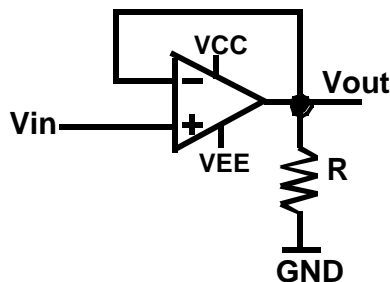
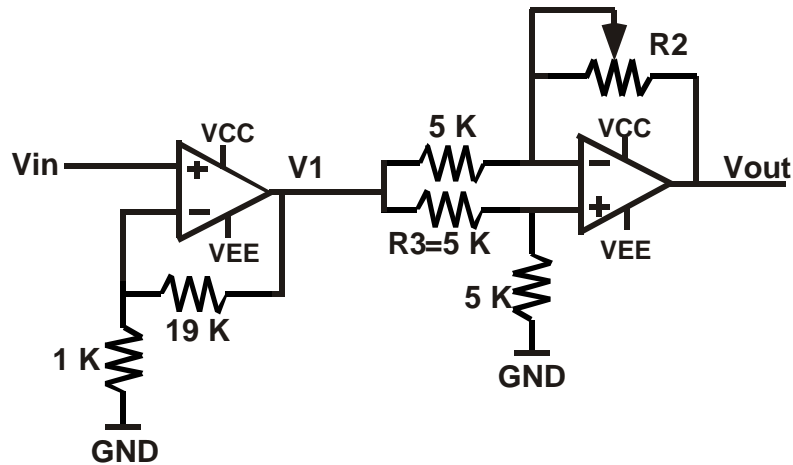

Figure 1. Voltage follower circuit.
Figure 2. Interesting gain circuit (© National Semiconductor).
Figure 1 shows the simple voltage follower circuit whose step response and sine-wave response will be studied in this lab. Figure 2 shows an interesting gain circuit, designed by a technical staff at National Semiconductor to provide variable gain with an interesting twist. You will analyze this circuit to find out what it does, measure its performance in the lab, and then re-design it to meet another specification.
In manufacturing testing of large-scale systems on IC or board or multi-chip modules (MCMs), a broken wire between two nodes in a circuit is a common failure. The wire might break due to improper soldering on a circuit board, bad contact, over-etching of conductor lines on an IC or MCM, etc. This type of fault is called “open” fault since the broken wire is equivalent to an open circuit (no connection). We will study one example of open fault with respect to the circuit in Figure 2 in this experiment.
For the circuit in figure 1 with $R = 5\text{ K}$, power supplies $V_{CC} = 12\text{ V}$, $V_{EE} = -12\text{ V}$, and the parameter values in section 6.1, answer the following questions:
4. Assume small-signal inputs to avoid slew-rate limitations and that the opamp is not ideal (e.g. finite open-loop gain A). You may still assume very large input resistance and very small output resistance for the opamp. Since the opamp gain A is not ideal and varies as a function of frequency (see the opamp specifications), the circuit in Figure 1 might not perform as a voltage follower. Using an equivalent circuit model for the opamp in which the open-loop opamp gain A is finite, analyze the circuit in Figure 1 to derive an equation for the circuit gain V_{out}/V_{in} as a function of A . At what value of A does V_{out}/V_{in} equal 0.5?
5. Using the opamp specifications (plot of opamp gain A as function of frequency) and the result in item 4 above, at what frequency do you expect $V_{out}/V_{in} = 0.5$?
6.3 Analysis of the gain circuit in Figure 2
Use the techniques in the text and what you learned about opamp circuits, analyze the gain circuit in Figure 2 following this procedure:
Re-design the circuit in Figure 2 so that the new overall gain has the opposite sign, i.e. if the circuit in Figure 2 has a gain G , the new circuit has gain $-G$ over the entire range of the resistor R_2 . Use as few components as possible and keep the design simple.
2. Analyze your circuit to prove that it has the gain as specified. If you find out that the magnitude of the gain somehow is not large as the gain magnitude for the circuit in Figure 2, explain why this is so.
6.5 Open fault in circuit in Figure 2
Assume that the circuit in Figure 2 has an open fault at the R_3 (5 K Ω) resistor. The effect of this open fault is to remove R_3 totally from the circuit.
1. Re-draw the circuit diagram in Figure 2, omitting the resistor R_3 to simulate the effect of the open fault.
1. Build the circuit in Figure 1 using $R = 5\text{ K}$, power supplies $\pm 12\text{ V}$. Set the function generator to provide a square wave input as follows (display on channel 1 of the scope):
7.3 Performance of the gain circuit in Figure 2
1. Build the circuit in Figure 2, with the initial setting of the resistor $R_2 = 0$ (record this value) and power supplies ± 12 V. Apply a sine wave input signal with amplitude 100 mV (-100 mV to + 100 mV peak-to-peak), frequency 10 Hz. Display the input signal on channel 1 of the oscilloscope.
1. Build the circuit in Figure 2 but omit the resistor R_3 to simulate the open fault. Set $R_2 = 8$ K Ω . Apply a sine wave input signal with amplitude 100 mV (-100 mV to + 100 mV peak-to-peak), frequency 10 Hz. Display the input signal on channel 1 of the oscilloscope.
1. From the pre-lab section 6.2 item 2 and the measured value in section 7.2 item 3, compare the calculated and measured values of the time for the output to reach the steady state.
3. With regard to the frequency at which the output starts to be distorted due to slew rate limitations, compare the value calculated in the pre-lab section 6.2 item 3 and the measured value in section 7.2 item 7. Explain any difference between these two values.
4. With regard to the frequency effect on the voltage gain for small-signal inputs, compare the frequency value calculated in the pre-lab section 6.2 item 5 and the measured value in section 7.2 item 9 when the gain has decreased by half. Explain any difference between these two values.
8.2 Performance of the circuit in Figure 2